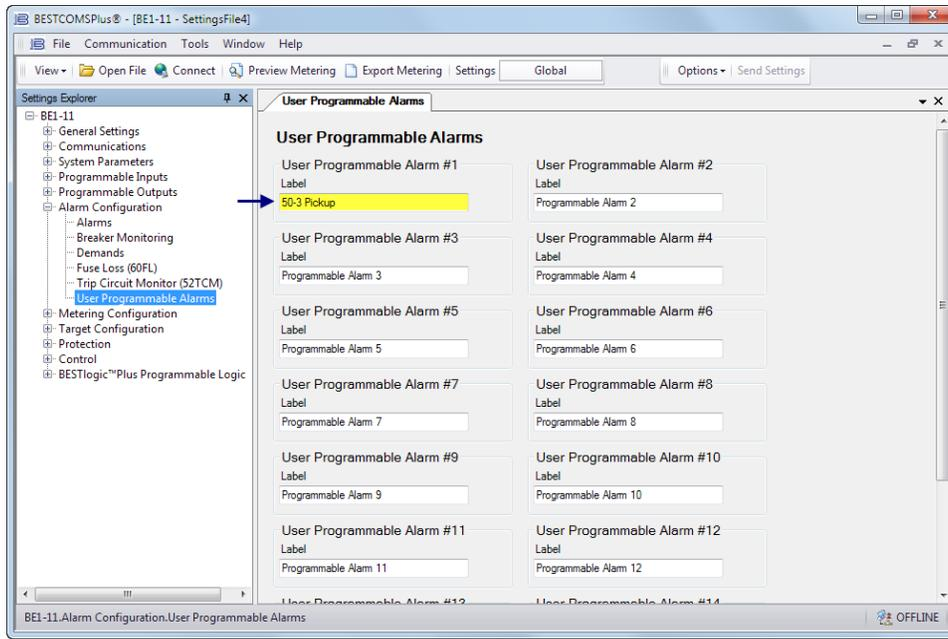

Figure 19. User Programmable Alarms Screen
Step 14: In the Settings Explorer, expand Alarm Configuration, User Programmable Alarms, and name User Programmable Alarm #1 (50-3 Pickup) as shown in Figure 19.